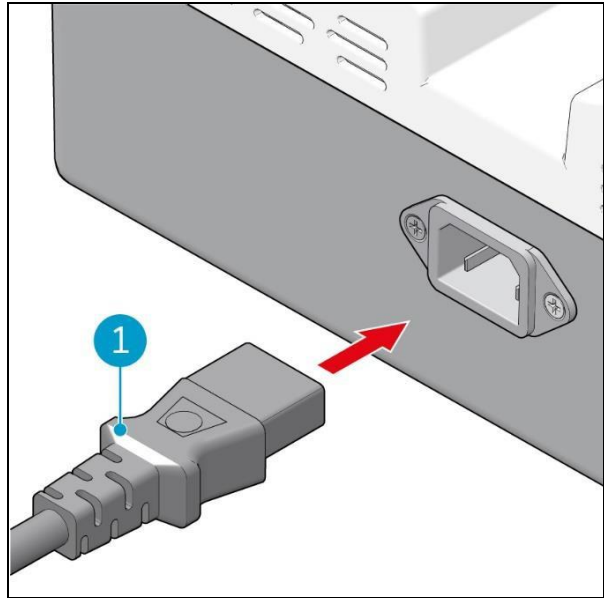

Figure 6
Connect the power cable (Figure 6, pos 1) to the connector at the backside of the i-charge 9.